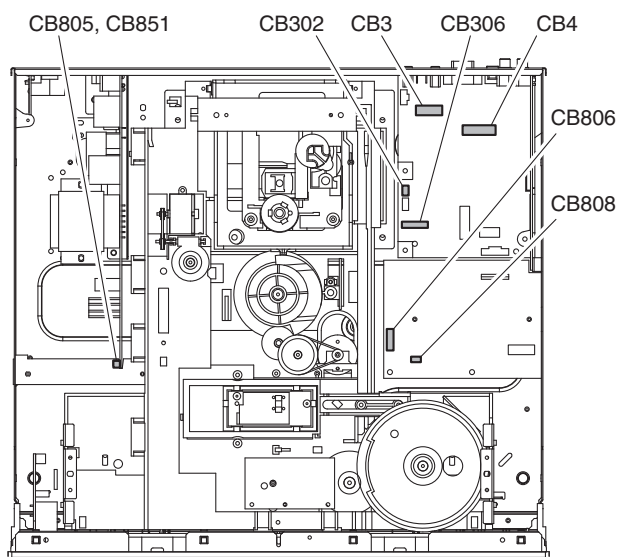

Fig. 9
- d. Remove CB3-4, CB302, CB306, CB805-806, CB808 and CB851. (Fig. 9)